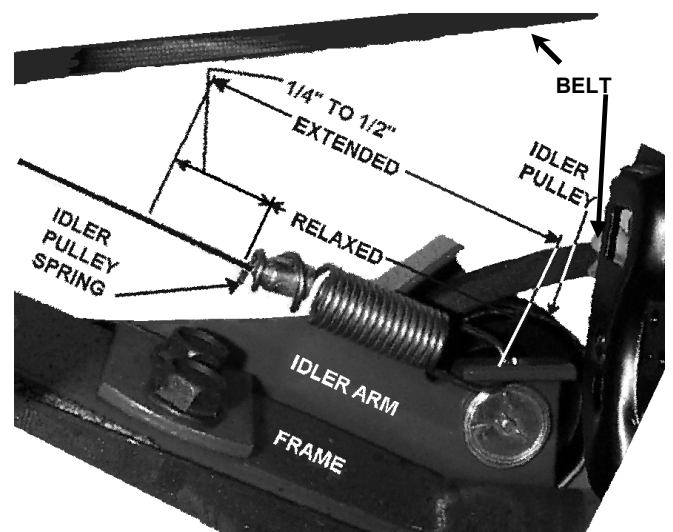
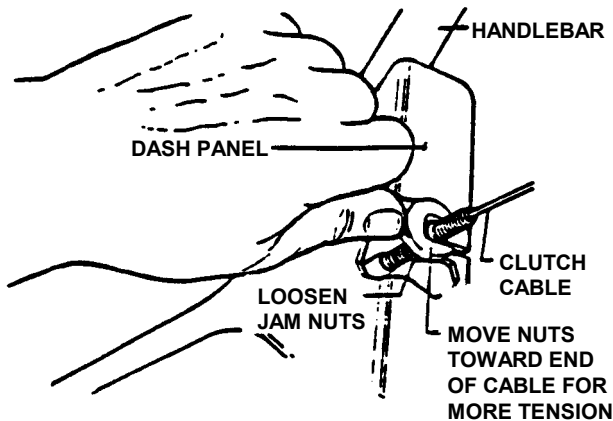

FIGURE 12
FIGURE 13
STEP 1: BELT TENSION ADJUSTMENT: From the right side under the fuel tank, measure the length of the idler pulley spring at the end of the control cable in a relaxed position. Then move wheel and tine control bail up to the handle bar and measure the extended length of the spring. When properly adjusted, the spring will extend 1/4" to 1/2". See Figure 12. To adjust, loosen and reposition the two jam nuts on the threaded end of cable located on the dash panel. Move jam nuts toward the end of threaded end of cable for more tension. Move jam nuts in a direction away from the end of threaded end of cable for less tension. See Figure 13. After adjustment, retighten both jam nuts against dash panel.